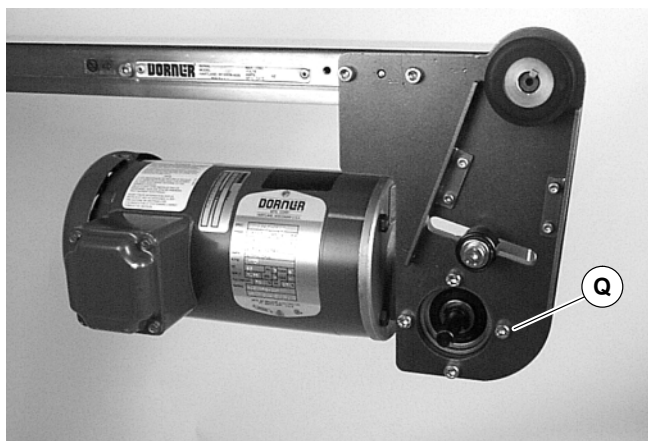

Figure 15
4. Remove four (4) gear reducer mounting screws (Q of Figure 15). Remove gearmotor.
- Install gearmotor to mounting bracket and tighten screws (Q of Figure 15) to 12 Nm.